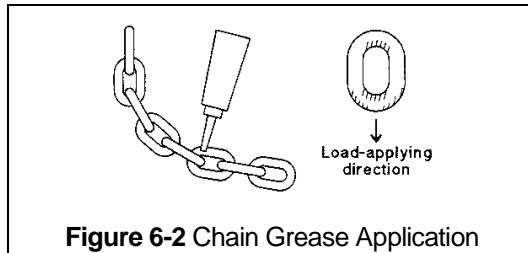

Figure 6-2 Chain Grease Application
- 6.2.3 Apply Harrington lubricating grease (Part No. ER1BS1951) or an equivalent to industrial general lithium grease, NLGI No. 0, to the bearing surfaces of the load chain links as indicated by the shaded areas in Figure 6-2. Also apply the grease to the areas of the load chain (shaded areas in Figure 6-2) that contact the load sheave. Insure that the grease is applied to the contact areas in the load sheave pockets.